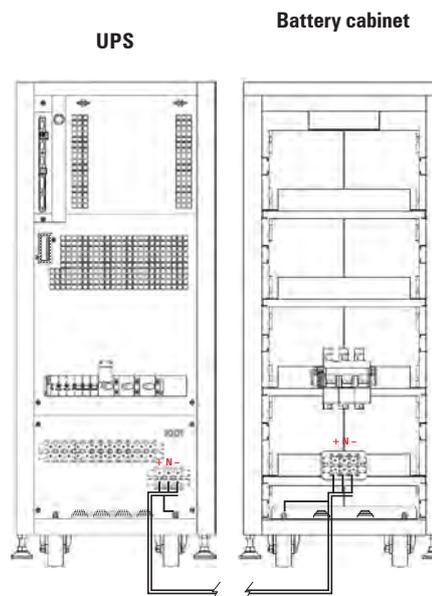

Fig. 33. Connection between UPS and battery cabinet.
- The connection of the battery cabinet with a UPS with power rate higher than 20 kVA (LV) / 40 kVA (HV) or for B1 models, will be done with the supplied cable bundle, by connecting one side to terminals (X11), (X23) and (X12) of UPS and the other one to terminals (X47), (X49) and (X48) of battery module, always respecting the stated polarity on the labelling of each element and this manual, as well as the colour of the cables (red for positive, black for negative, blue for middle tap (N) and green-yellow for earth bonding), see Fig. 33.